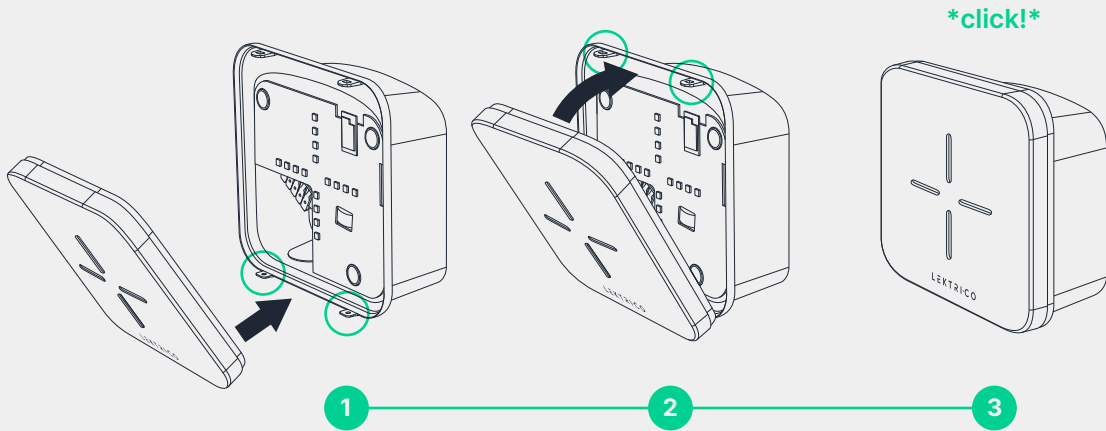

Fig. 10 - Install the front cover
19. Install the front cover by gently pushing it into place, first in the bottom 2 fixing hooks and then in the 2 top fixing hooks. **(Fig. 10)**